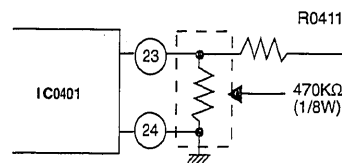

Fig. 1-4-1B
- (2) Connect IC0401 pin (23) to pin (24) through resistor 470 K Ω as shown below in figure 1-4-1B.